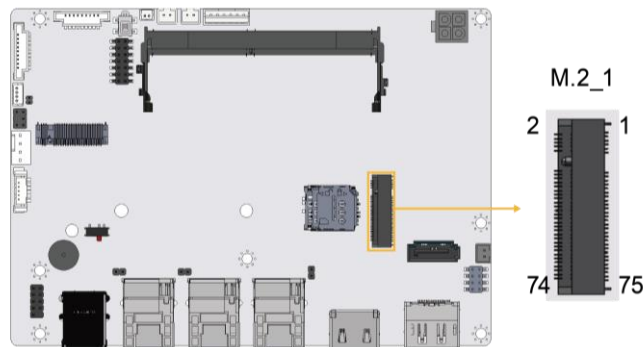

Figure 3-20: M.2 B key Slot Location
- CN Location:** See Figure 3-20